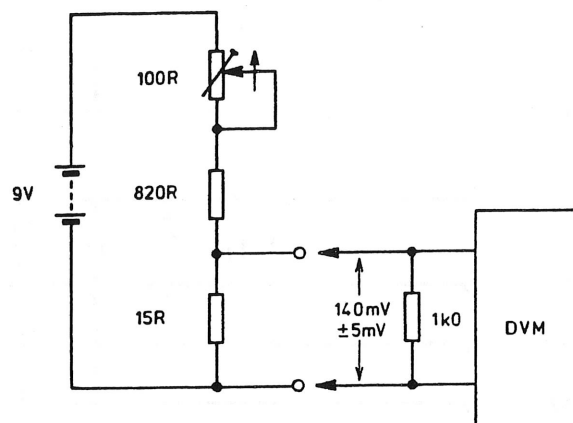

Fig. 4.1 Voltage Source
4.14 Voltage Source Floating 140mVdc source (eg battery & resistive divider network), accuracy $\pm 5\text{mV}$ with 1k Ω load (Fig. 4.1)